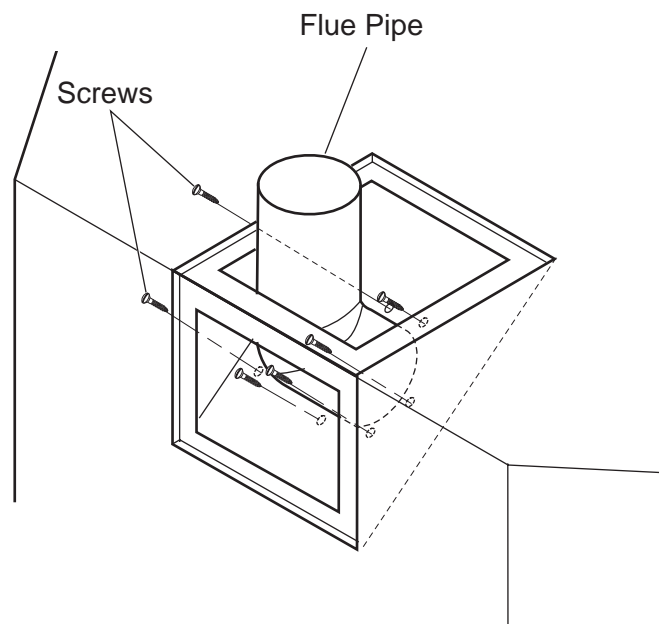

Figure 10 - Attaching Flue Pipe to Top Vent Configurations
5. Replace flue pipe to top of firebox. Ensure the gasket is in place and undamaged. Secure with six (6) screws. *See Figure 10.*
7. Refit the flue pipe adapter and gasket to the top of fireplace. Secure the adapter with eight (8) screws removed in step 1.